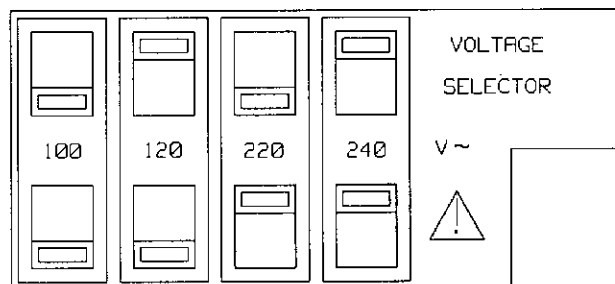

Figure C-1. Voltage Selection Possibilities
5. Then using a screwdriver, move the switches into the position required for the voltage to be used, as shown in Figure C-1.